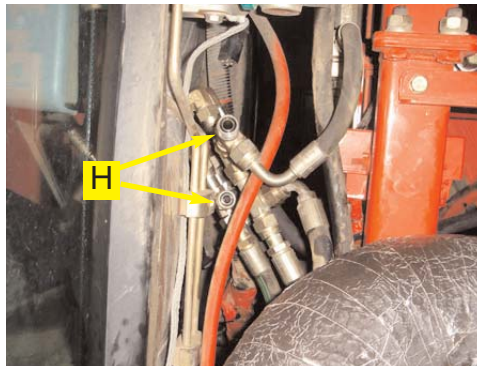

Figure 6b. Installed pressure and tank run tees.
b. The bottom right port on the steering orbital is the pressure port and the top right port is the tank port. Install the provided run tees (**H**) into the pressure and tank lines. When multiple run tees are present in the tank line it may be necessary to install the run tee (**H**) onto the branch of an existing run tee as shown. (Figure 6b.)